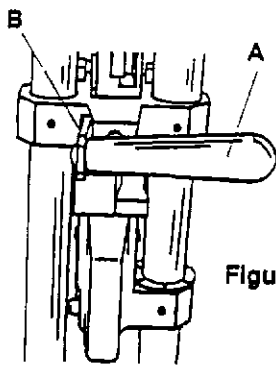

Figure 13
The **HARDBOARD HANDLE (A)** and **HANDLE BRACKET (B)** are shipped in the box with the **PILLAR POSTS**. Install them to the head as shown in **Figure 13** with the screws and washers provided.